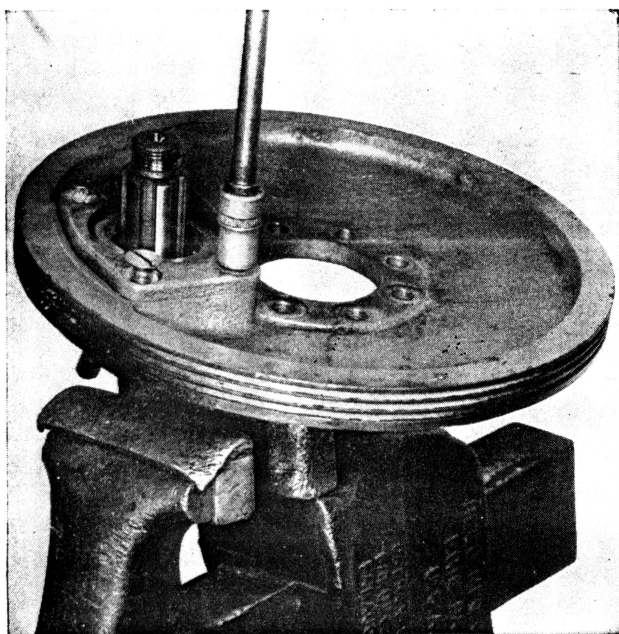

Fig. 16
3. Remove two slotted screws and two hex-head capscrews from bearing retainer. (Refer to Fig. 16.)